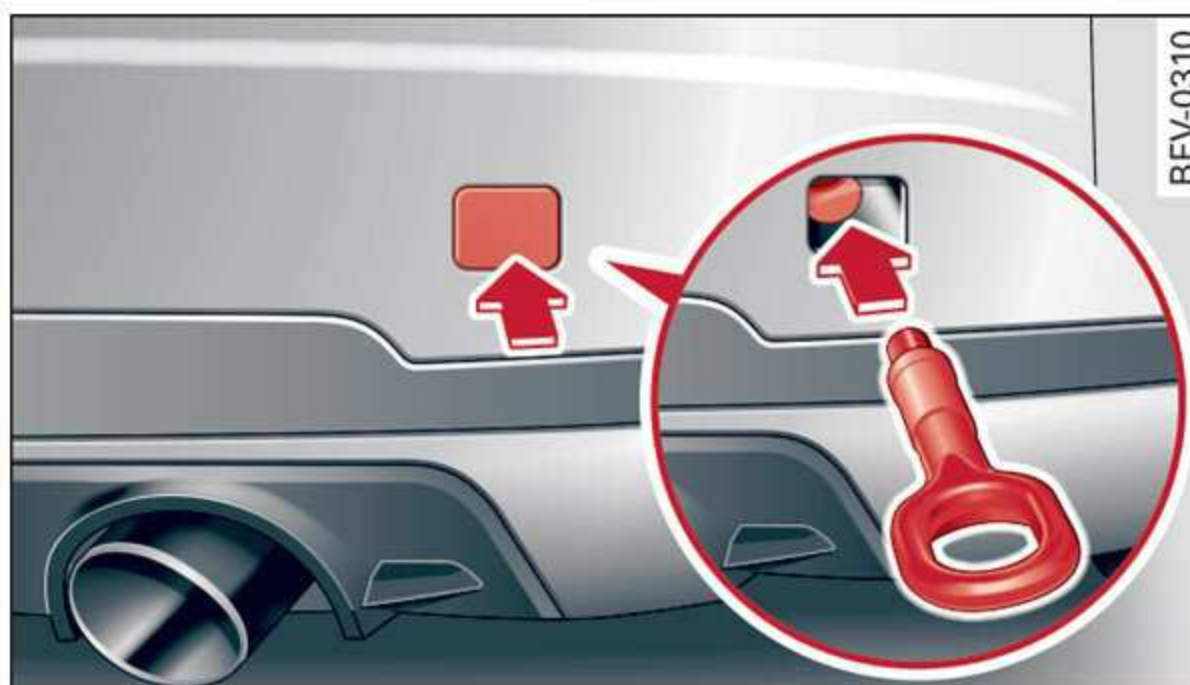

Fig. 199 Rear bumper: installing the towing loop
- ▶ Press the cap inward with brief, strong pressure ⇒ *fig. 199*. The cap will loosen from the bumper.